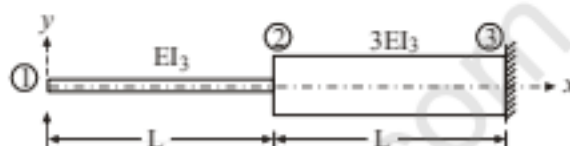

Fig.1
4. Calculate the rotation of point 1 of the cantilever beam in Fig. 1. Using the principle of complementary virtual work. Neglect shear deflection.